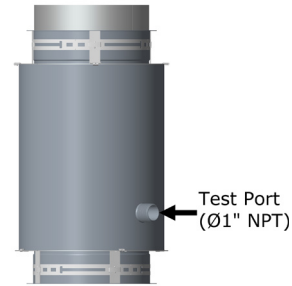

Figure 74 - Nozzle Length (NL)
The Nozzle Length (NL) is used when there is a need for test port. Same size as the Drain Length (DL). See Figure 74.